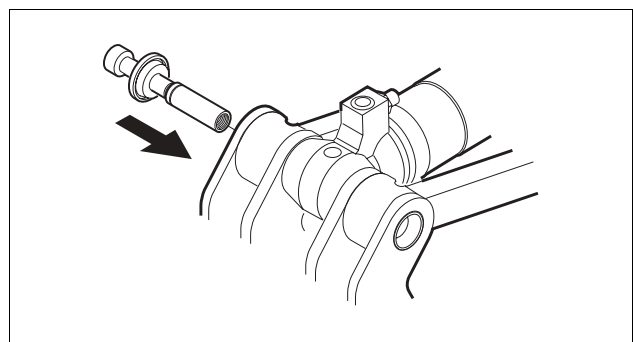

Fig. 50 Insert the pre-assembled screw
6. Insert the pre-assembled capscrew, nut, and washer in the pin-joint. *See Fig. 50.*